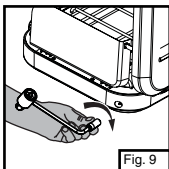

Fig. 9
- Screw regulator into stove hand tight. (Fig. 9)